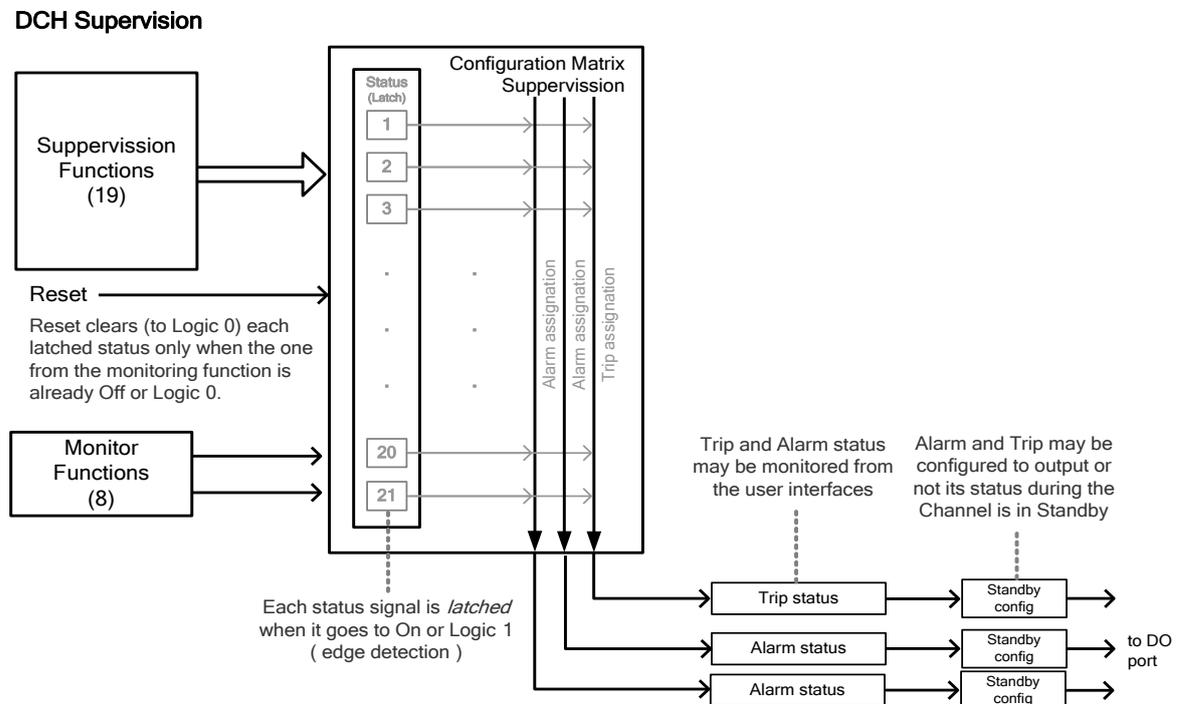

Figure 3-11 Double Channel Supervision.
The DCH Supervision has a total of 23 status signals from different supervision functions. It also has two Monitor Alarm outputs that can be configured to generate a (global) Alarm and/or a (global) Trip. As shown in *Figure 3-11*, Alarm and Trip status signals are configured by a so called Configuration Matrix. Alarm and Trip are independent of each other and they can be configured differently.
Each monitoring function that can be configured in the Configuration Matrix has a *status* which is used to detect the failure and triggers Alarm and/or Trip according to the configuration. The *status* from each monitoring function is implemented with a latch memory which makes the value remain active (logical true) even after the failure has been diminished and the monitoring function no longer reports a failure. Therefore, it is possible to determine which monitoring function causes an Alarm or Trip even after de-exciting the machine. The latch memory of all monitoring function statuses can be cleared by the digital input "Reset Alarm" (only if the failure has already been diminished) or by powering off the device (*Figure 3-11*).
Both Alarm and Trip statuses are the outputs from the Configuration Matrix and they can be monitored using the CMT1000 and Remote Access. Alarm and Trip Status can be configured as digital outputs (DO), however as shown in *Figure 3-11*, they are not directly connected to the output. Instead they are connected to the Standby Configuration boxes. The Standby Configuration boxes, shown in *Figure 3-11*, prevent Alarm and Trip to output their status values to the DO port during Standby mode; and this function can be used to prevent undesired alarms as long as the Channel is in Standby. When the Standby Configuration blocks the status of Alarm and/or Trip, the value transferred to the DO port is logical zero.